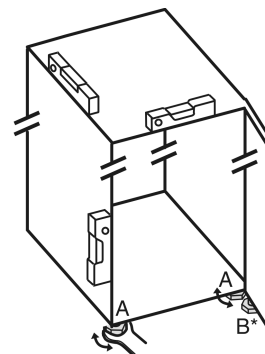

Fig. 24
- ▶ Unscrew the adjustable feet Fig. 24 (A) using the enclosed open-end spanner and a spirit level until the appliance is firmly aligned and level.
- ▶ Unscrew the adjustable foot *Fig. 24 (B)* on the swap bearing block with the enclosed open-end spanner until it rests on the floor.
- ▶ Turn the adjustable foot *Fig. 24 (B)* 90° further.